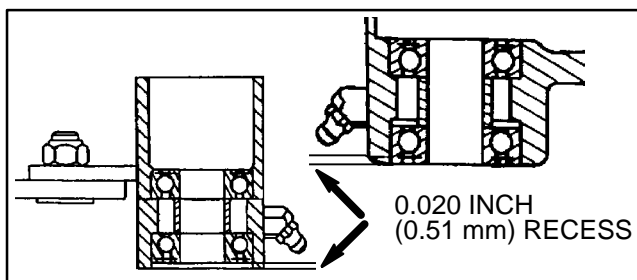

Figure 11
C. Install inner bearing in both housings so they are flush with the housing inner recess of the housing (Fig. 11).